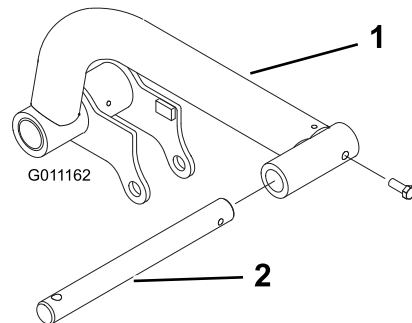

Figure 9
1. Insert a pivot rod into each lift arm and align the mounting holes (Figure 9).